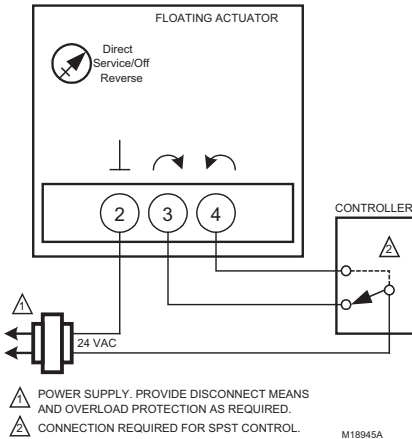

Fig. 10. Wiring for On/Off Control
2. Wire actuator using Figures 10 through 18 for the application required.